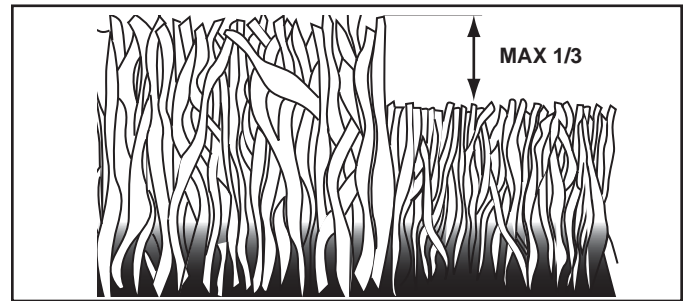

Fig. 16
- For best results, adjust the mower cutting height so that the mower cuts off only the top one-third of the grass blades (See Fig. 16). For extremely heavy mulching, reduce your width of cut on each pass and mow slowly.